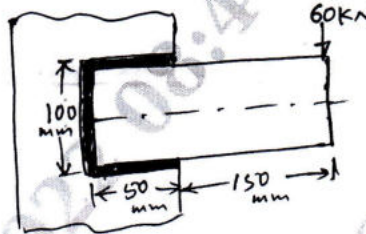

Fig.Q8(a)
- 8 a. A welded connection as shown in Fig.Q8(a) is subjected to an eccentric force of 60 kN in the plane of the welds. Determine the size of the welds, if the permissible shear stress for the weld is  $100 \text{ N/mm}^2$ . Assume static conditions.